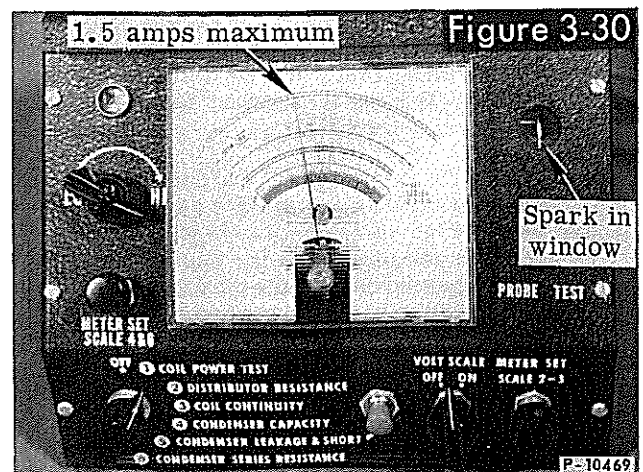

Figure 3-30
- Place the selector switch in the number 1 position. Slowly turn the current control knob toward the HI position until the spark appears in the window of the tester and becomes steady and even. The pointer should indicate no more than 1.5 amperes maximum on the number 1 scale (Figure 3-30). If the spark is faint, intermittant or no spark has occurred at a reading of 1.5 amperes maximum, a new coil should be installed.